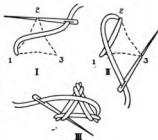

FIGURE 54
*Crowfoot* (Figure 54). — This serves the same purpose as an arrowhead but is more ornamental.